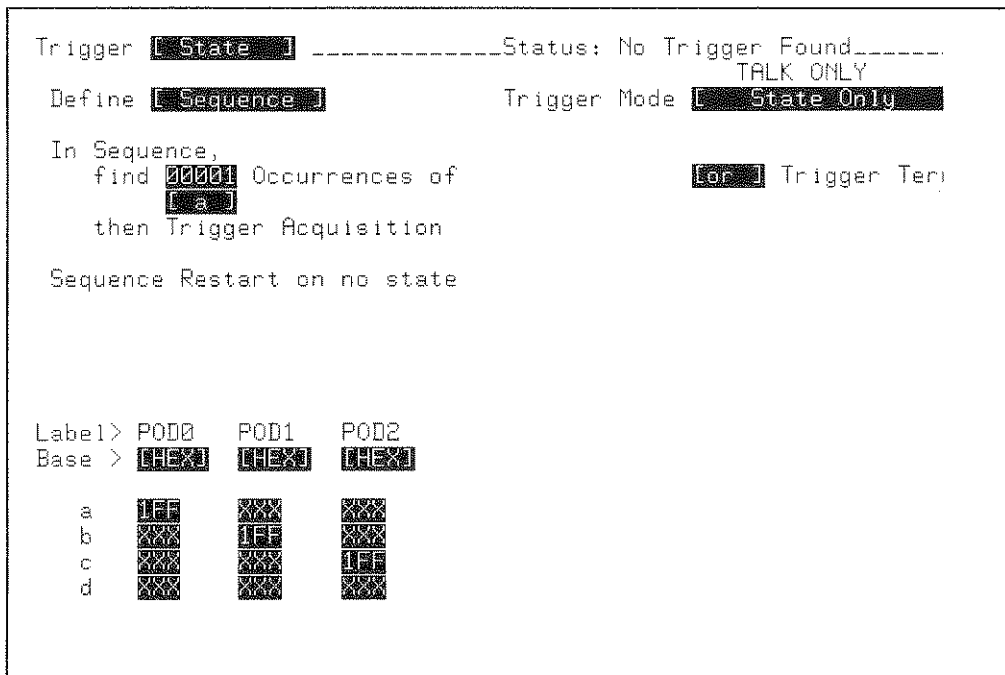

Figure 9-21. TRIGGER State / Define [Sequence] Menu
5. Configure the TRIGGER State / Define [Sequence] menu as shown in figure 9-21.
17. Repeat steps 12 through 15 for POD 1, with the following change: in step 5, reconfigure the menu in figure 9-21 with "Occurrences of [ b ]".
19. Repeat steps 12 through 15 for POD 2, with the following change: in step 5, reconfigure the menu in figure 9-21 with "Occurrences of [ c ]".